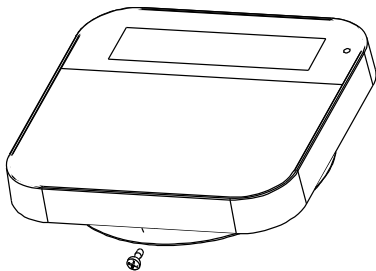

Figure 3
4. Attach the housing screw at the bottom of the front cover (see figure 3).